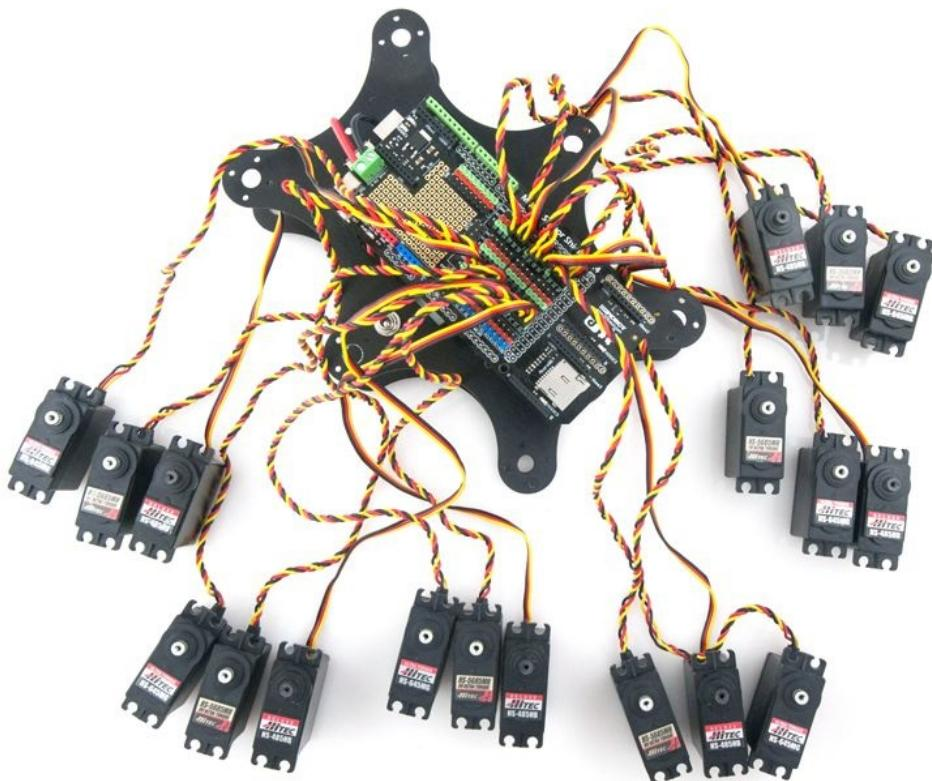

Figure 5-4. All the servos connected
2. Plug your Arduino into your computer's USB port and attach power to your shield. Figure 5-4 shows how everything should look at this point.